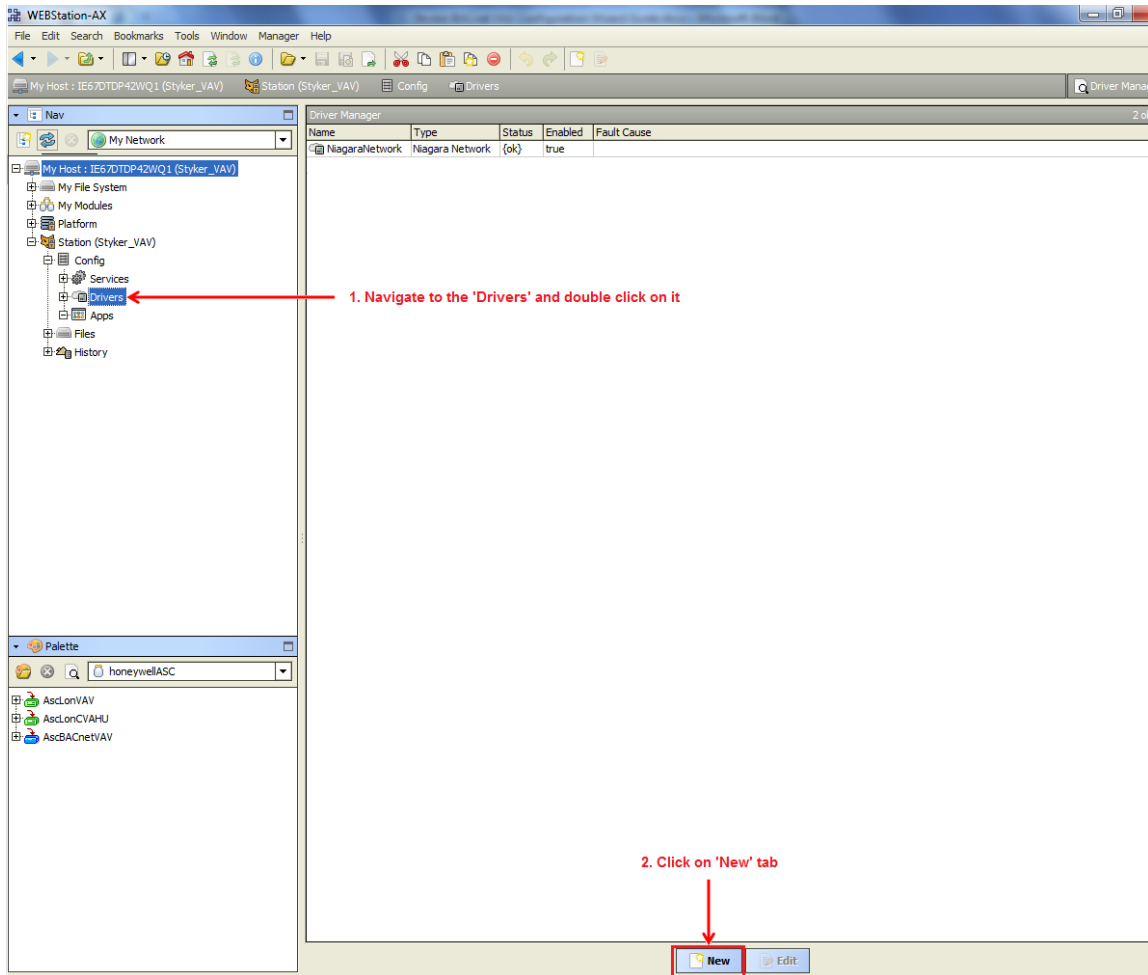

Figure 20: Adding BACnet Network
- Click on 'New' tab Refer to Figure 20.